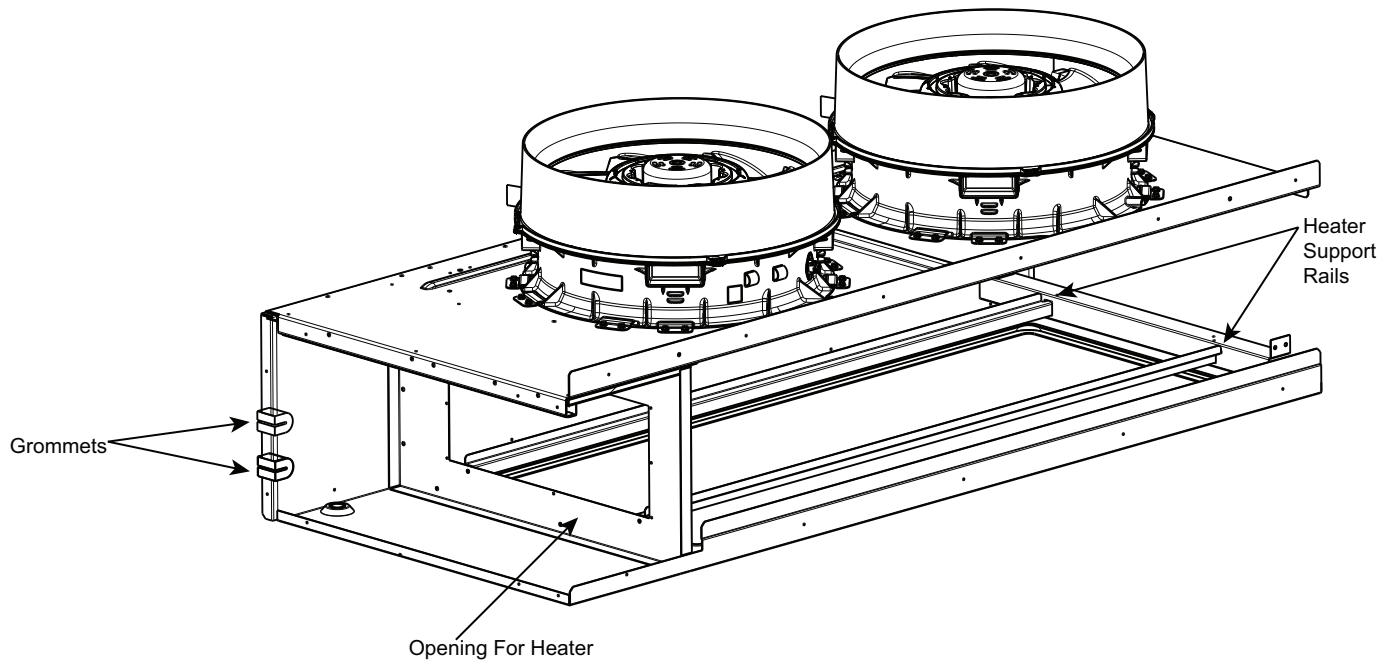

Fig. 42 — Opening for Electric Heater
4. Insert heater assembly through opening where block-off plate was previously removed. Let back end of heaters slide along support rails beneath fan deck. (See Fig. 42.)
6. Route heater power wires through grommets notches in vertical fan deck support. (See Fig. 42.) Continue routing wires under coil and filter support through the bottom notched section of the control box. Avoid sheet metal edges and any protruding screws.